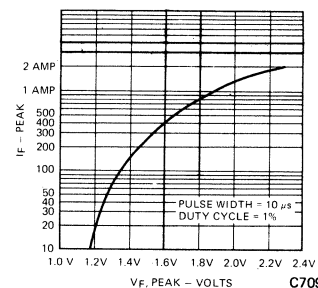

Fig. 3. I_F Peak Pulse Mode Characteristics
- The curves in figure 3 are normalized to the power output at 25°C to indicate the relative efficiency over the operating temperature range.